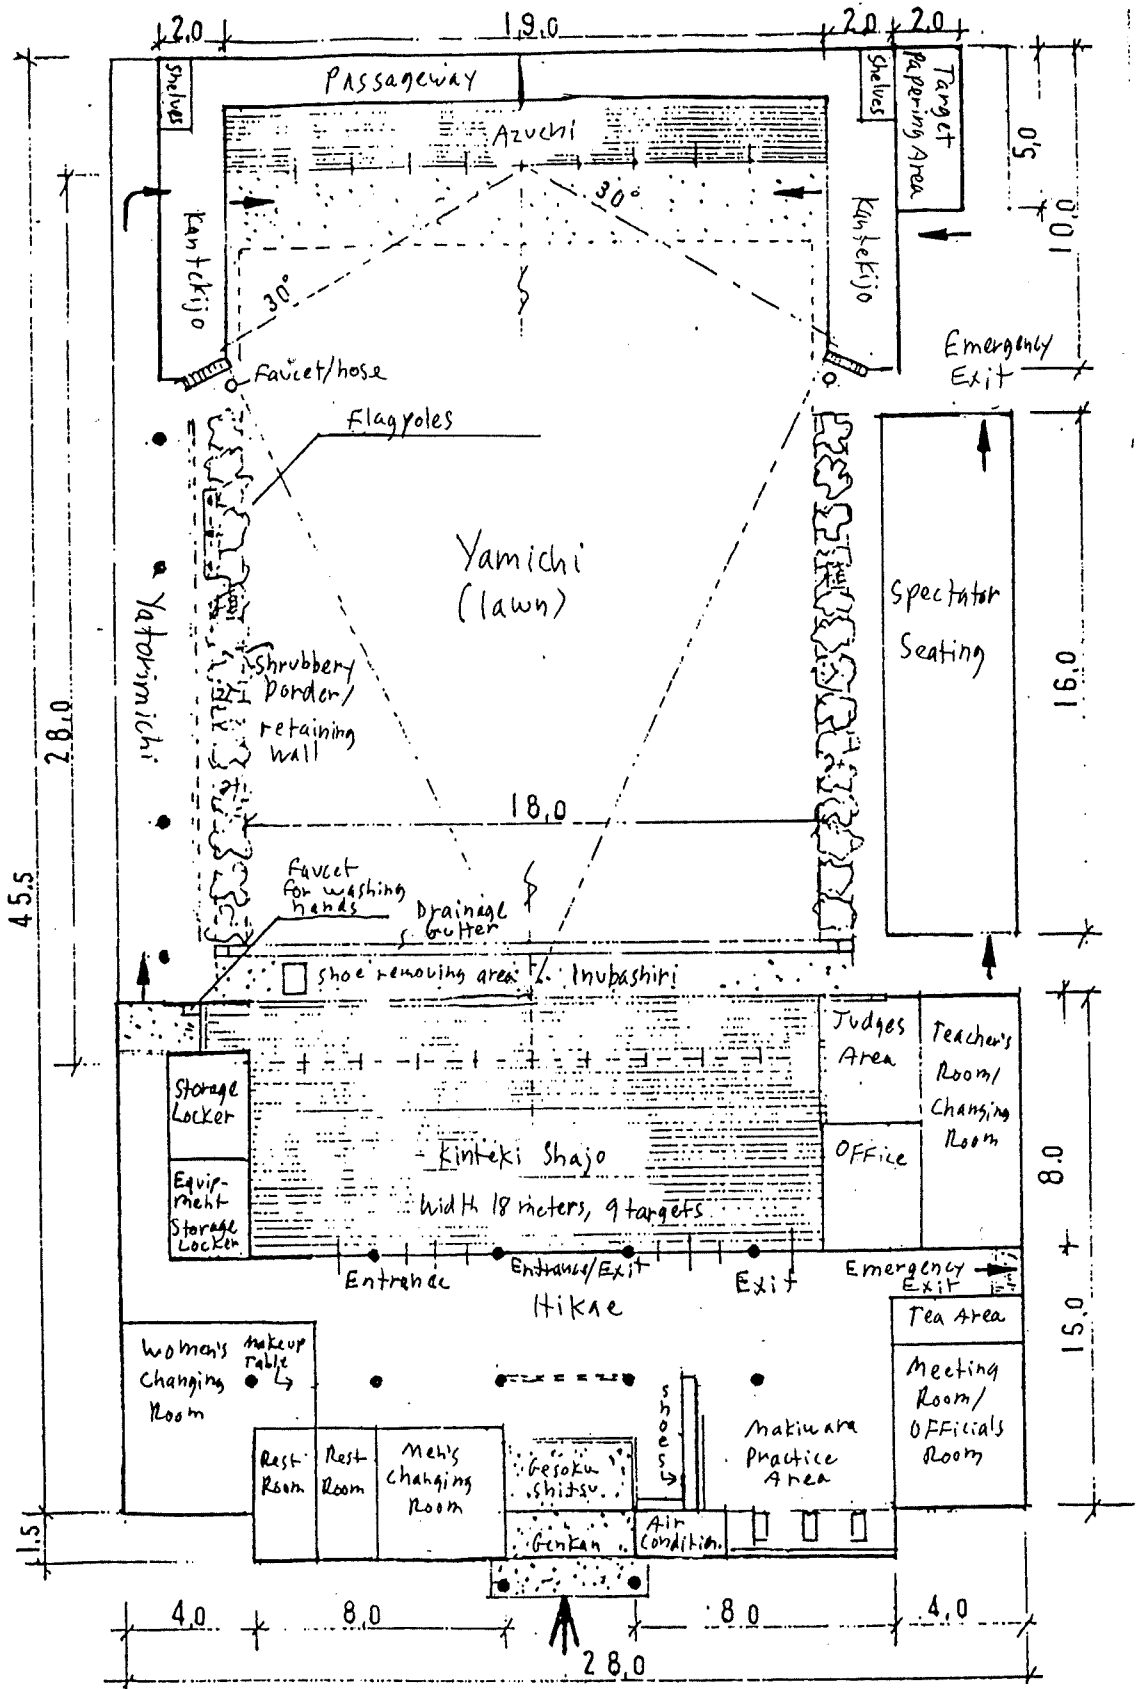

Figure 15 Floor Plan For a Kinteki Dojo (width 18 meters, 9 targets)
1. The *yatorimichi* is the pathway that connects the shajo and the kantejiko, so a roof is all that is required, but in order to prevent accidents from stray arrows and to create a serene atmosphere, providing a low wall and a shrubby border is recommended. See Figure 15.